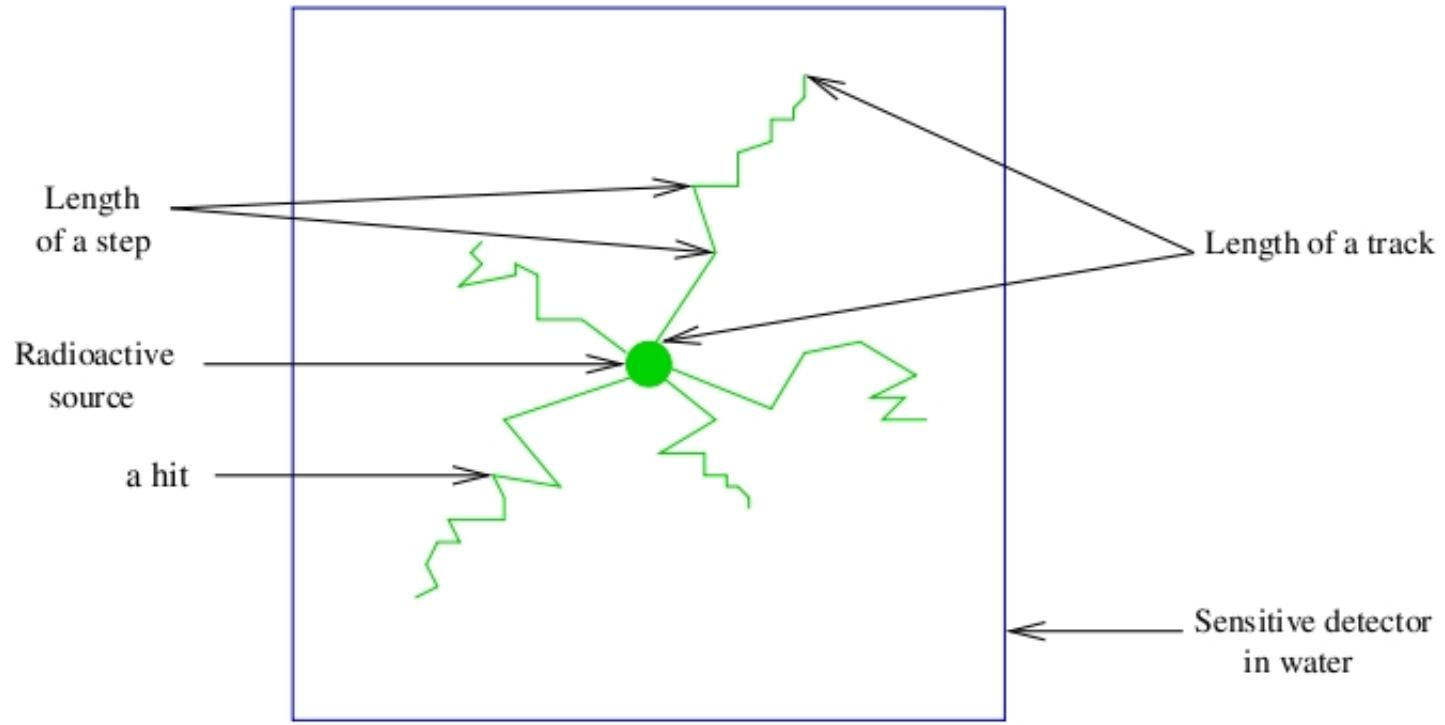

Figure 5.1: Particle interactions in a sensitive detector
Once a model has been defined for the scanner through the construction of a system (see Users Guide V8.0:Defining a system), the next step is to attach a **sensitive detector** (SD) to some volumes of the geometry. As in any Geant4 simulation, these sensitive detectors are used to store information regarding interactions of a particle in the matter (*hits*) using information from the steps occurring along the particle track. A hit is a snapshot of a physical interaction of a track in a sensitive region of the detector. Figure 5.1 illustrates these notions. Hits contain various pieces of information associated to a step object, such as the energy deposition of a step, geometrical information, position and time of a step, etc.